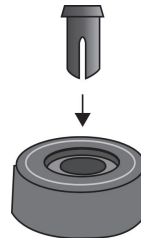

Figure 79. Inserting the Rivet Housing into the Bumper Foot
2. Inset a rivet housing into a bumper foot. Refer to Figure 79.